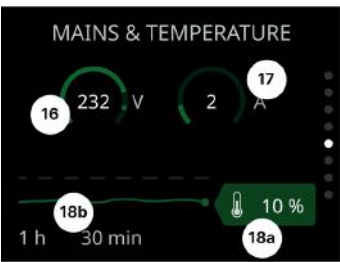

Fig. 1.10 - Mains & Temperature page
The Mains and Temperature page (Fig. 1.10) displays the mains voltage (16) and the current draw (17). A temperature indicator (18a) shows the percentage of the current temperature relative to the high-level threshold. When the temperature rises to the high level (19), the device limits its outputs to avoid an over-temperature state (20). In this state, the amplifier is muted. High and Over temperature states are indicated as warnings and alarms, respectively, on the Home page (for more details about warning and alarm states, see Section 2). The Temperature History (18b) shows the last hour of the temperature trend.